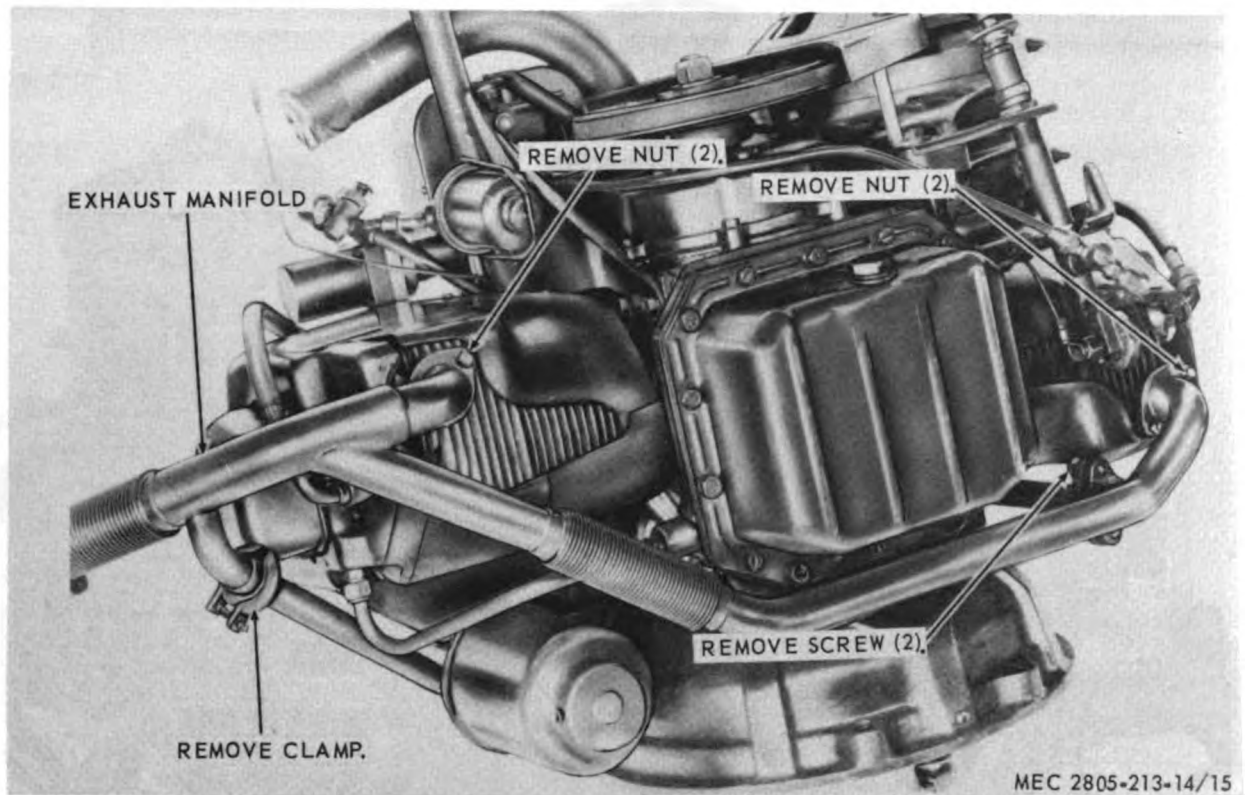

Figure 3-19. Exhaust manifold, removal and installation (Model AO42-KM).
a. Removal. (Model AO42-KM). Refer to figure 3-19 and remove the exhaust manifold.
e. Installation. (Model AO42-KM). Refer to figure 3-19 and install the exhaust manifold.